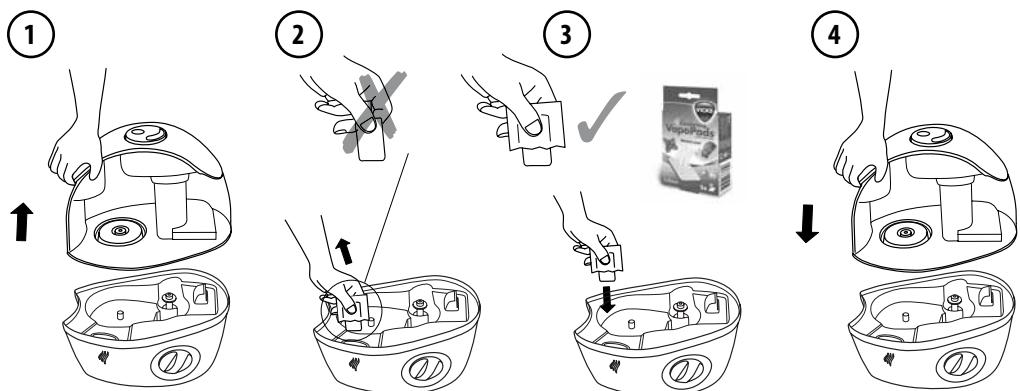

Fig 4
2. Remove the water tank and locate the scent pad slot on the base (Fig. 4).